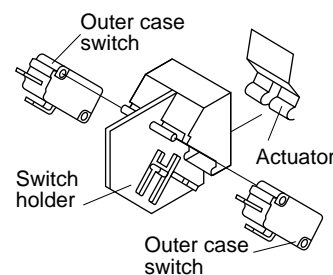

Figure C-1. Outer case switches replacement
1. Re-install the actuator to the switch holder by inserting the tab of the actuator into the square hole on the switch holder, as shown in Figure C-1.
2. Re-install the outer case switches to the switch holder, as shown in Figure C-1.
4. Re-install the one (1) snap of the main wire harness to the hole of the switch holder.
5. Catch the one (1) tab of the switch holder to the one (1) hole of the oven cavity rear plate.
6. Re-install the switch holder (outer case switch assembly) to the oven cavity rear plate with the one (1) screw.